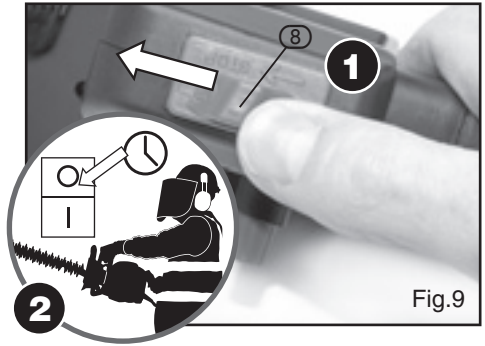

Fig.9
9.3 STOPPING THE ENGINE – FIG. 9
- 1 To stop the engine, move the ON/OFF switch (8) to the “stop” position.